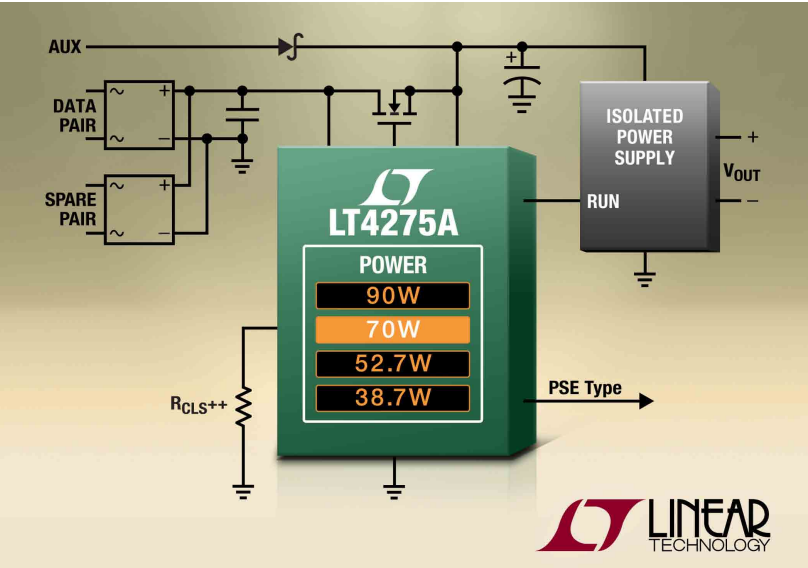

Figure 3: The LT4275 90-W PD controller uses an external MOSFET for increased power efficiency.
cable-discharge protection, low component count, and cost-effective designs. When paired with the LT4275 PD controller (figure 3), a complete plug-n-play LTPoE++ system, with no LLDP required, can deliver up to 90 W while remaining fully compatible with PoE+ and PoE standards. The entire implementation uses external low-RDS(ON) MOSFETs to drastically reduce overall PD heat dissipation and maximize power efficiency, which is important at all power levels. High absolute maximum ratings on all analog pins and cost-effective cable-discharge protection ensure the devices are safe from the most common Ethernet line surges.